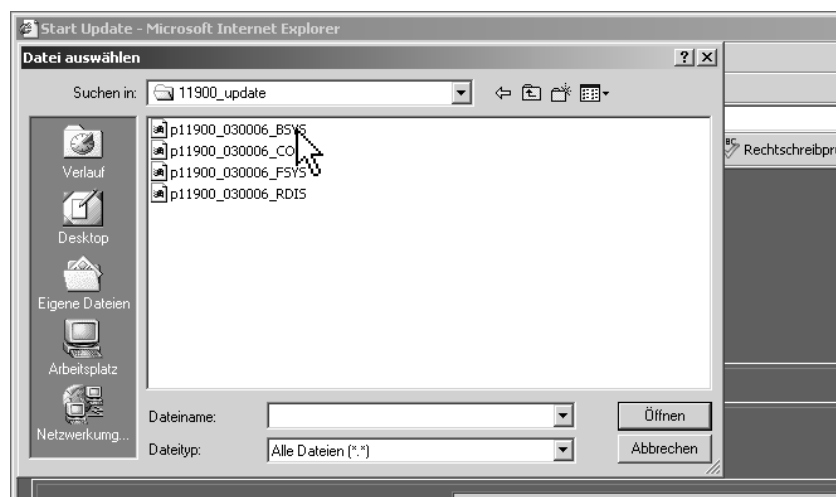

Fig. 8-4: The update file selection dialog box
4. Use the displayed dialog to select the directory path where you have stored the **four** update files. Select the file **p11900_XXXXXX_BSYS** first (see Fig. 8-4). XXXXXX represents the current software version code (also see Chapter 6.4 for details).